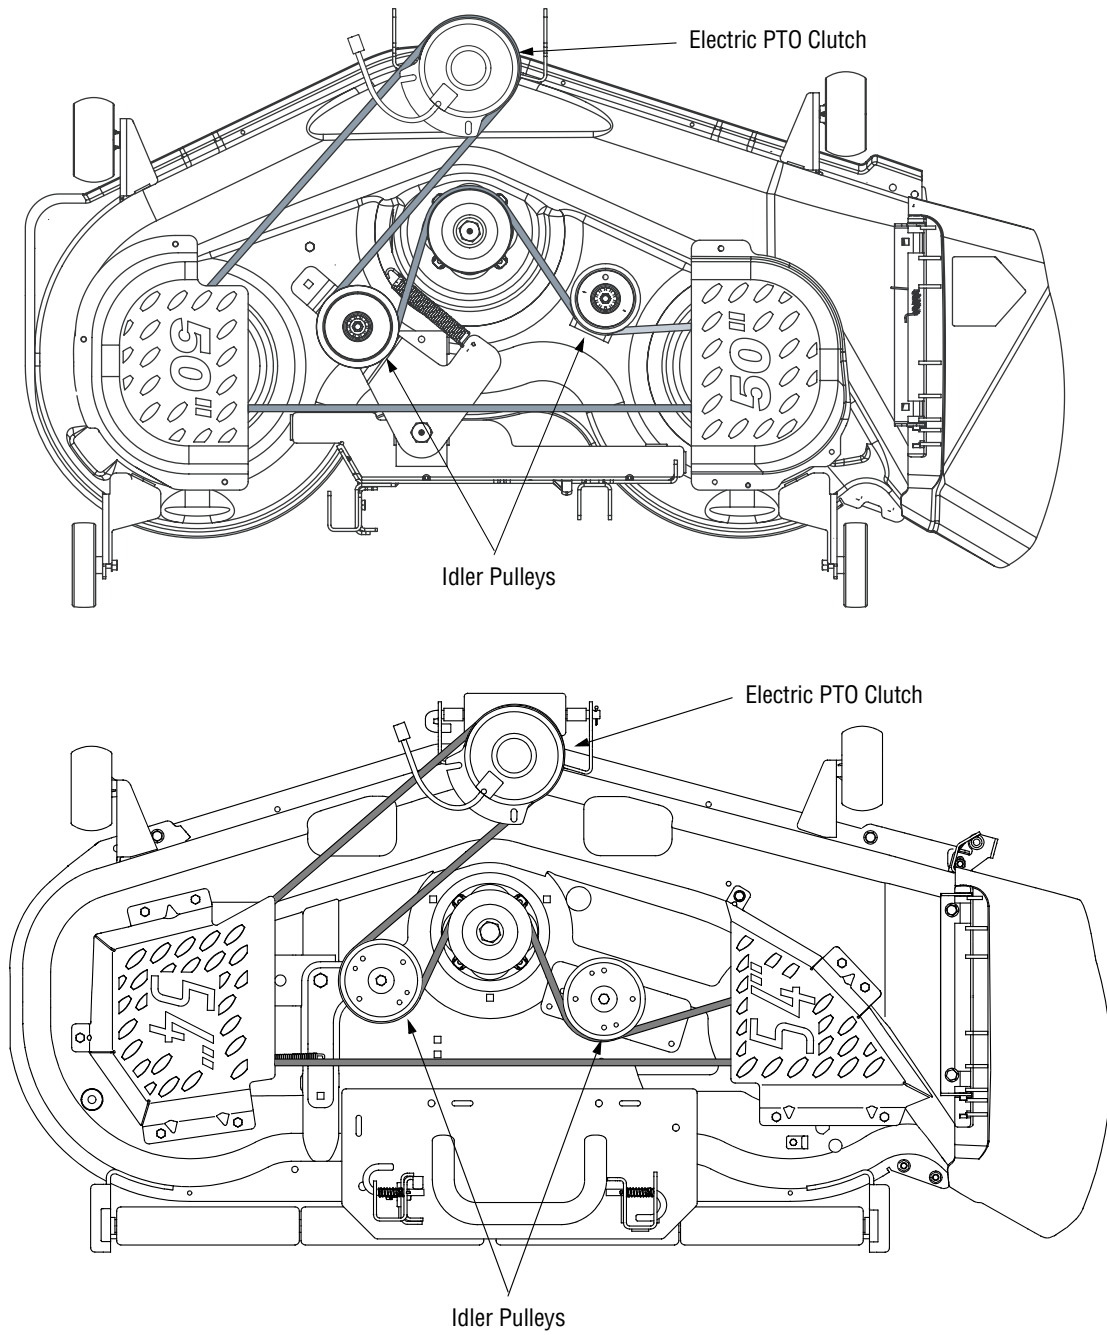

Figure 27
- Route the new belts (deck belt first). See Figure 27.